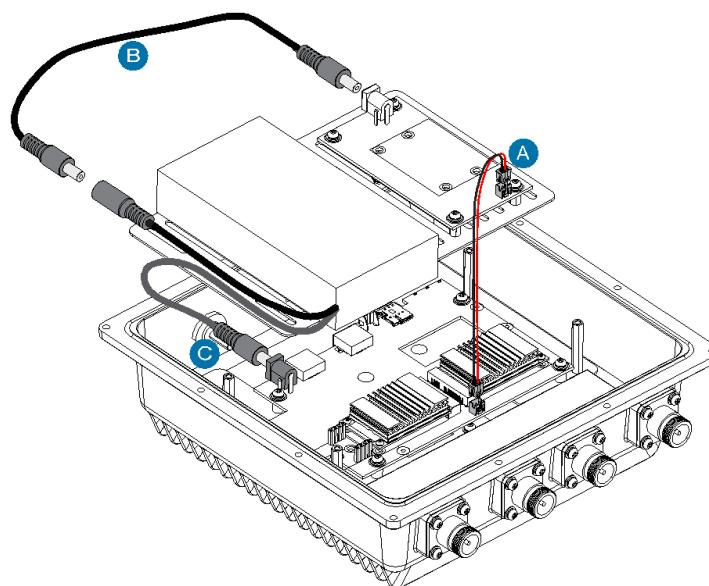

Figure 10: Connecting the cables
11. Connect the cables like shown in Figure 10.